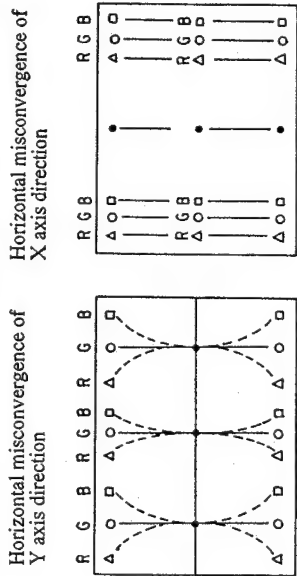

Fig. 3-16-1.
This is a simple explanation of the convergence system in Super fine Trinitron picture tube used in this model. The Deflection Yoke (DY) used in this model generates an almost uniform magnetic field in order to get fine beam spot size. Accordingly basically misconvergence of horizontal direction as shown in Fig. 3-16-1, is generated on the picture screen.